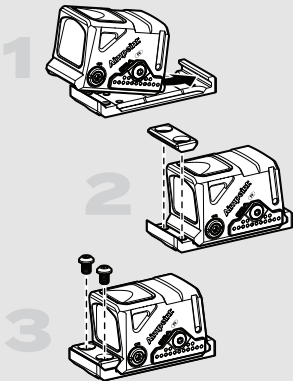

Fig. 2 COA™ R sight installation
- a Tilt the sight so that the front protruding part can be inserted into the slot on the A-CUT Mount plate (1 / Fig. 2). The sight will interface with the Aimpoint A-CUT on the mount plate and center itself.
- a Place the wedge (2) onto the mount plate so that the holes in the wedge line up with the holes in the mount plate (2 / Fig. 2).
- b Mount the screws(1) through the wedge into the mount plate (3 / Fig. 2). Alternately tighten the screws to 2 Nm (17.7 in. lbs). Make sure to use only these screws for attaching the wedge.